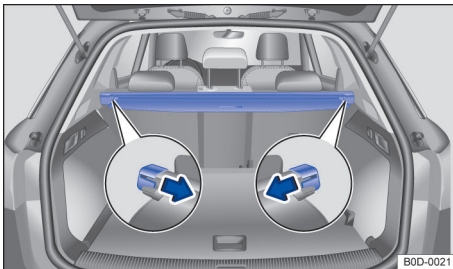

Fig. 115 In the luggage compartment: the luggage compartment cover is lowered
- Press the luggage compartment cover out of the side holders in the luggage compartment → Fig. 115.
- Push the luggage compartment cover into the side holders in the luggage compartment. → Fig. 115